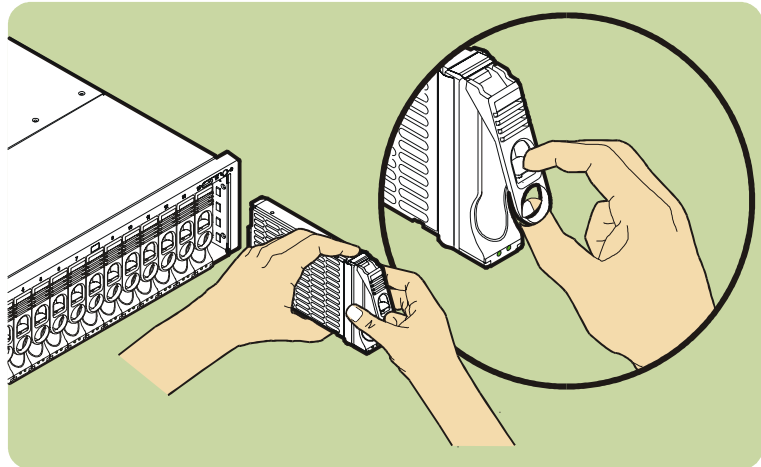

Fig. 7. Removing a disk drive
4. Remove all of the disk drives from the array (see Fig. 7).